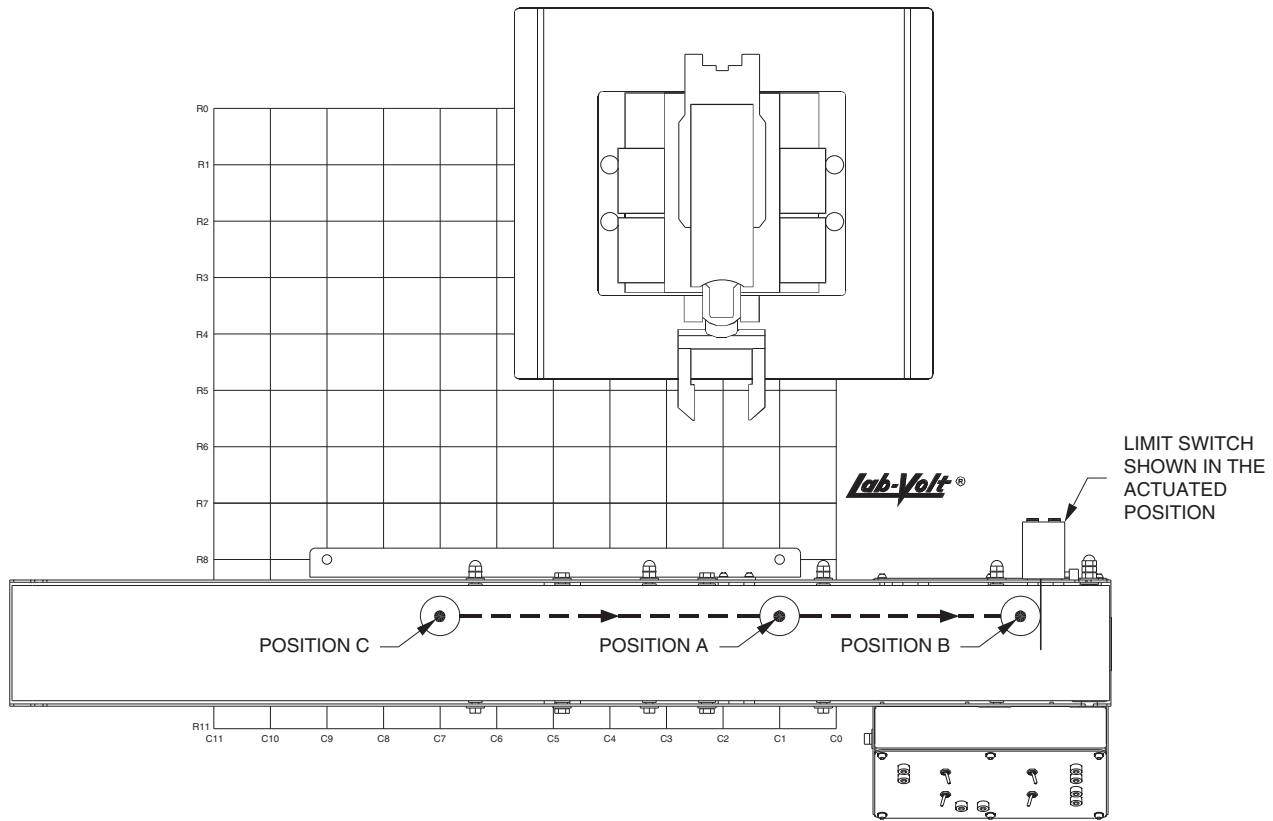

Figure 6-4. Location of the equipment on the Grid.
- 22. Create a program where a film canister moves on the Belt Conveyor from position A to position B at medium speed (refer to Figure 6-4). The conveyor stops when the limit switch detects the presence of the film canister at position B.